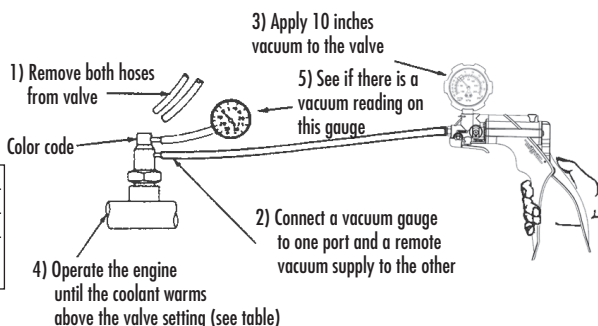

FIGURE 15: TESTING THE TWO-PORT PVS
1) Apply 10" Hg of vacuum to the bottom port of the valve with your vacuum pump and measure the results with a second vacuum gauge as shown in the accompanying illustration (FIGURE 15).